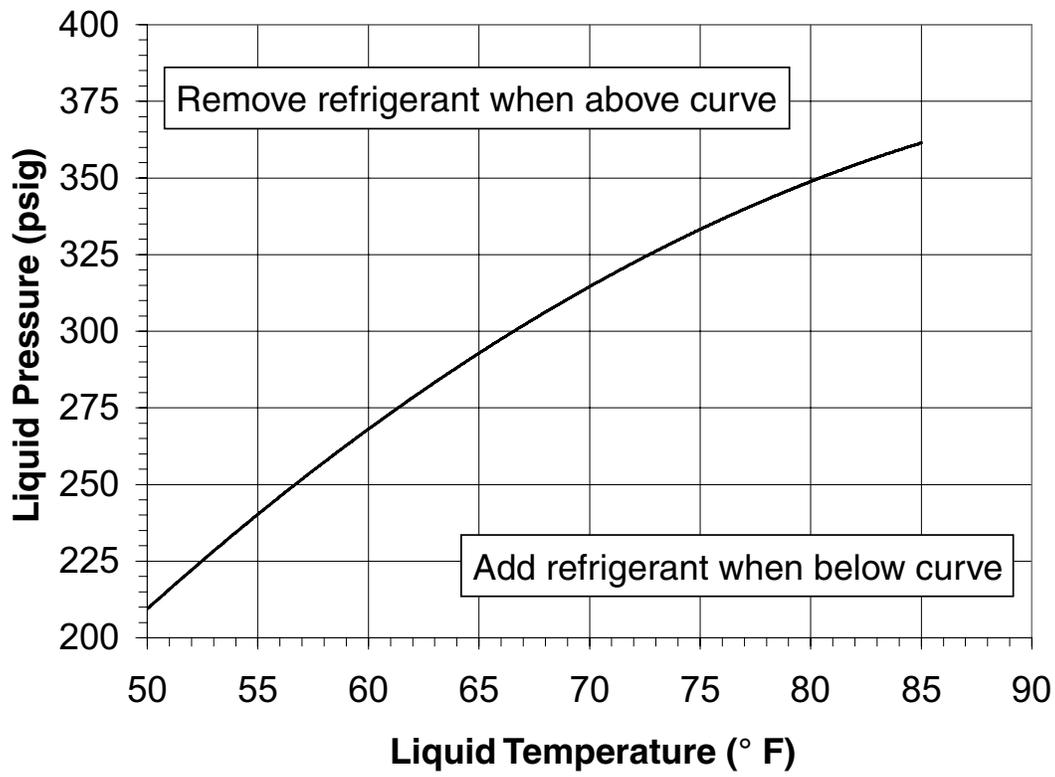

Figure 8. Heat Mode Charging Chart
- Figure 8, (page 12)** is provided for quick reference when the unit is in heating mode and for the inspection of the liquid line pressures and temperatures.